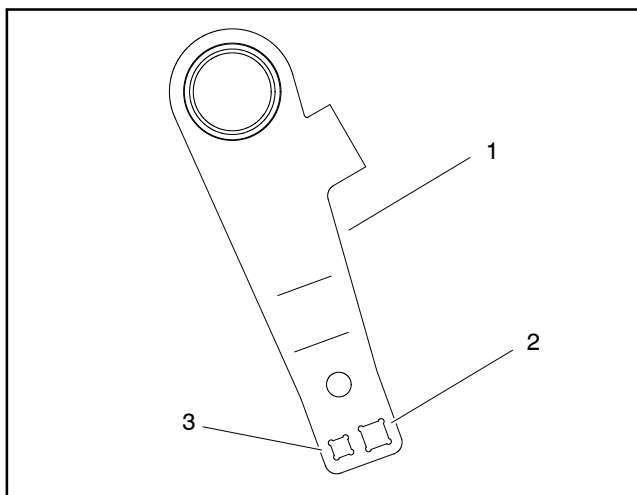

Figure 7
**NOTE:** When removing deck drive belt, use breaker bar in idler arm square drive holes to rotate idler pulley away from belt (Fig. 7).